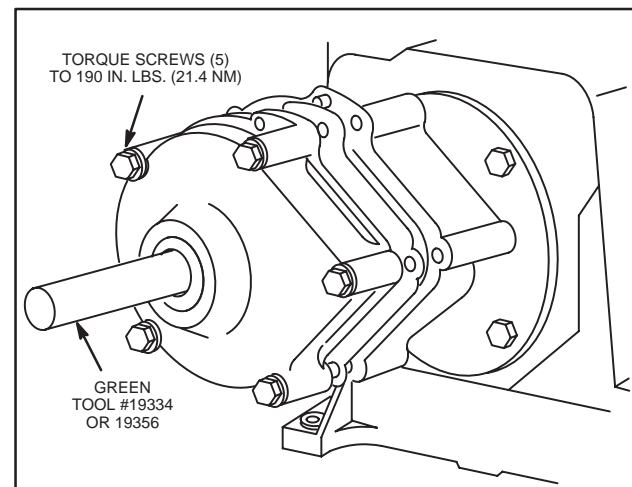

Fig. 149 – INSTALLING GEAR CASE COVER ASSEMBLY
7. Install screws and lockwashers and torque screws to 190 in. lbs. (21.4 Nm), Fig. 149.